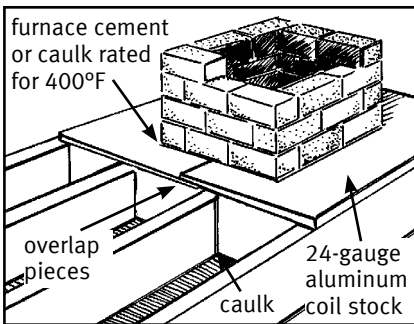

Figure 11 - Chimney
- **Chimneys.** Most newer homes have metal chimneys. The collar around this type of chimney may be loose or may not cover the entire opening. Repair the collar as necessary, and seal around the chimney and framing with high-temperature sealant. Older homes may have an open gap between the brick chimney and the wood framing (see Figure 11).